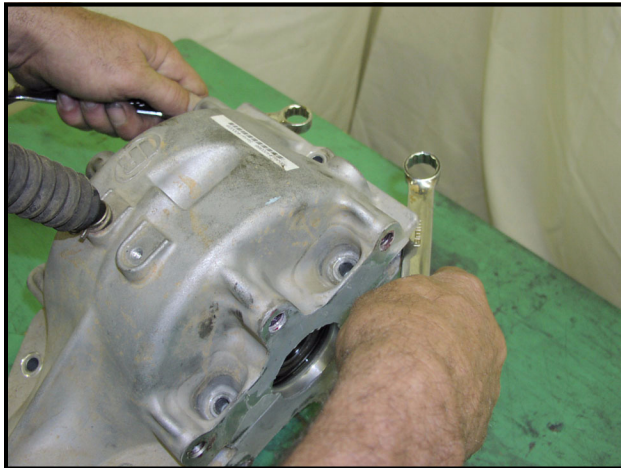

Figure 10-5 Pry Housing Halves Apart
6. Use two flat wrenches or flat metal bars and gently pry the top portion of the housing away from the bottom portion (**Figure 10-5, Page 10-4**). See following **CAUTION**.